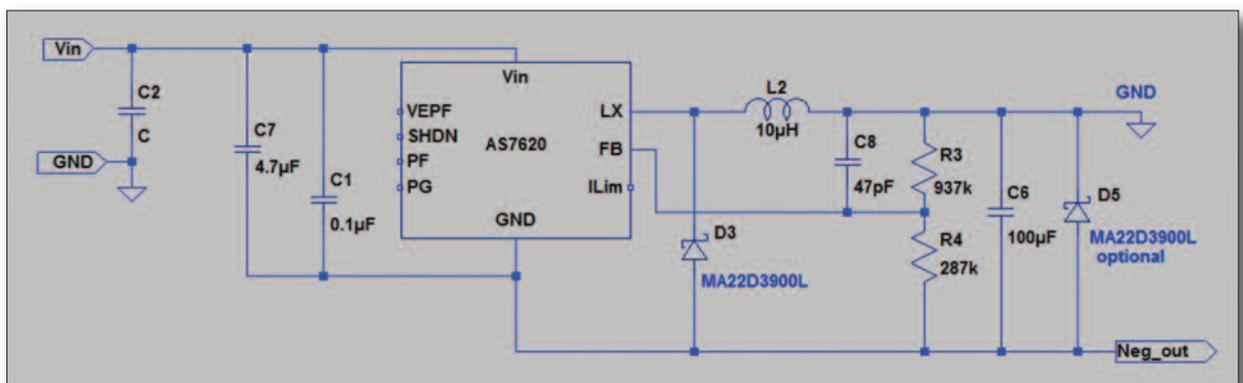

Figure 1: AS7620 connected as a negative buck/boost regulator
Figure 1 shows a -5V negative buck/boost inverter circuit, using the AS7620 positive buck regulator from austriamicrosystems. This IC is specified for a 3.6 V to 32 V input voltage range, uses a 1.2 V feedback voltage and has an internal 500 mA power switch. The switch current is monitored so that the converter always operates in discontinuous current mode (DCM): this means that it is intrinsically stable, and no external compensation circuitry is needed. It also means that it does not have an issue with stability due to the RHP zero, because this only occurs in flyback, boost and Ćuk circuits, and then only in continuous current mode.
During the first stage of the switching period, when the switch is on, the inductor is linearly ramped up to store energy (see Figure 1 again). No current passes to the output. In the second stage,
1) The voltage across the AS7620 is made up not only of V_{in} , but is equal to the input voltage plus the magnitude of the negative output voltage ($V_{in} + |V_{out}|$). Therefore care should be taken to specify an appropriate voltage rating for the input caps (C7 and C1 in Figure 1). In addition, ($V_{in} + |V_{out}|$) must not exceed the maximum voltage rating of the regulator. The AS7620, for instance, has a maximum voltage rating of 40 V. It is feasible to use this part to generate a -12 V output from a +12 V rail, or a -5 V output from a +24 V rail.